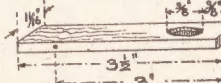

Fig. 4—The spring board
The foregoing parts then form the frame as it were for containing the two moving levers (D) and (E). In order to throw the balls in the right direction towards the target, the spring board (E) will be pivoted a little above its lower end, and a diagram of this piece is included in Fig. 4 with all dimensions given. A hole is cut at the top end of the piece in which the ball will rest. This hole is bevelled round afterwards and glasspapered smooth. The lever (E) is thrown upwards by the lever (D) coming in contact with it just above its pivot. The movement can be seen from the sectional view Fig. 5. When the lever (D) is depressed with the forefinger, this lever being pivoted, its opposite end is raised and makes contact with lever (E). The force of the throw and, of course, the length of the throw, too, is regulated by the touch of the finger, and it is this power of touch which, through practice, enables the player to throw the balls skilfully into their holes. Some care must be taken in boring the holes in the side edges of the levers (D) and (E) to get them all exactly opposite and squarely run in. The holes in the sides of the frame must be large enough for the pivot screws to